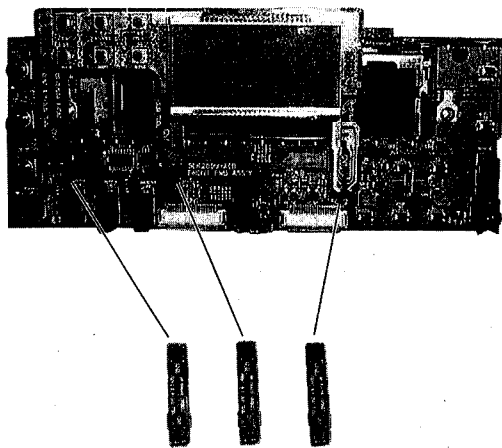

Fig. 1-3-9
- (1) The FRONT sub-board is connected to the FRONT board via CN1, CN2 and CN3. Pull the sub-board toward the front to disconnect the connectors and remove the sub-board from the Front board.
- (2) To supply power to the FRONT sub-board, attach an extension board as shown in Fig. 1-3-9.